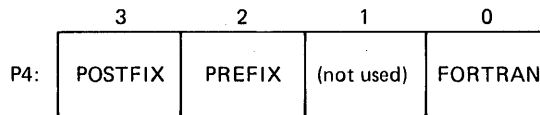

Figure 2-4 P4 Carriage Control Specifier
2.4.2.2 Write Function Carriage Control - The P4 argument is a longword that specifies carriage control. Carriage control determines the next printing position on the terminal. P4 is ignored in a write physical block operation. Figure 2-4 shows the P4 longword format.